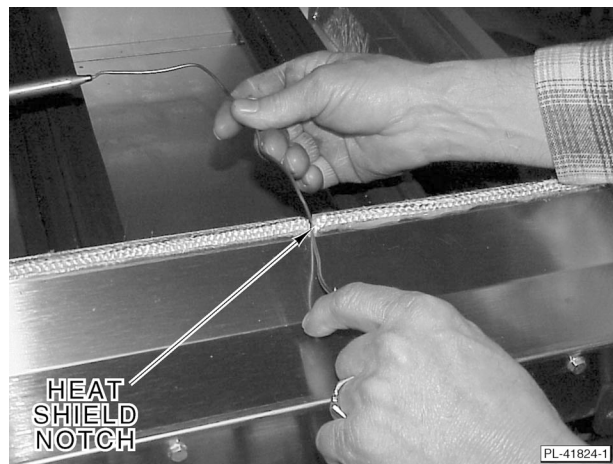

Fig. 16
6. Feed the thermostat bulb and capillary up over the heat shield and through the notched area supplied in the shield (Fig. 16).